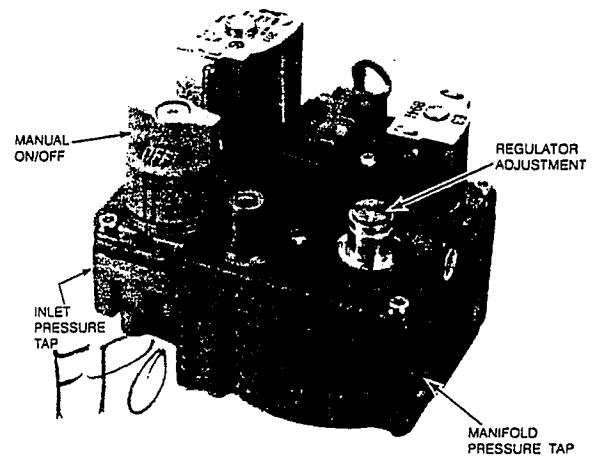

Figure 11—Redundant Automatic Gas Control Valve
- (1.) Remove regulator adjustment seal cap. (See Figure 11.)